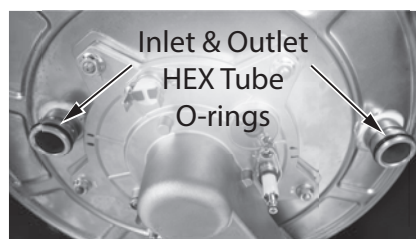

Figure 149 - Install new O-rings
52 Locate the two (2) O-rings provided in the kit. Install O-rings to the inlet and outlet HEX tube connections as shown in Figure 149.